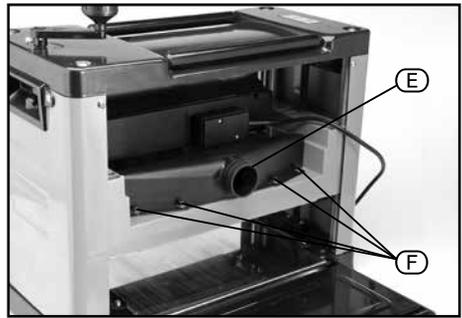

FIG. 12
8.7 DISMANTLING THE KNIFE BLADE – FIGS. 12 – 14